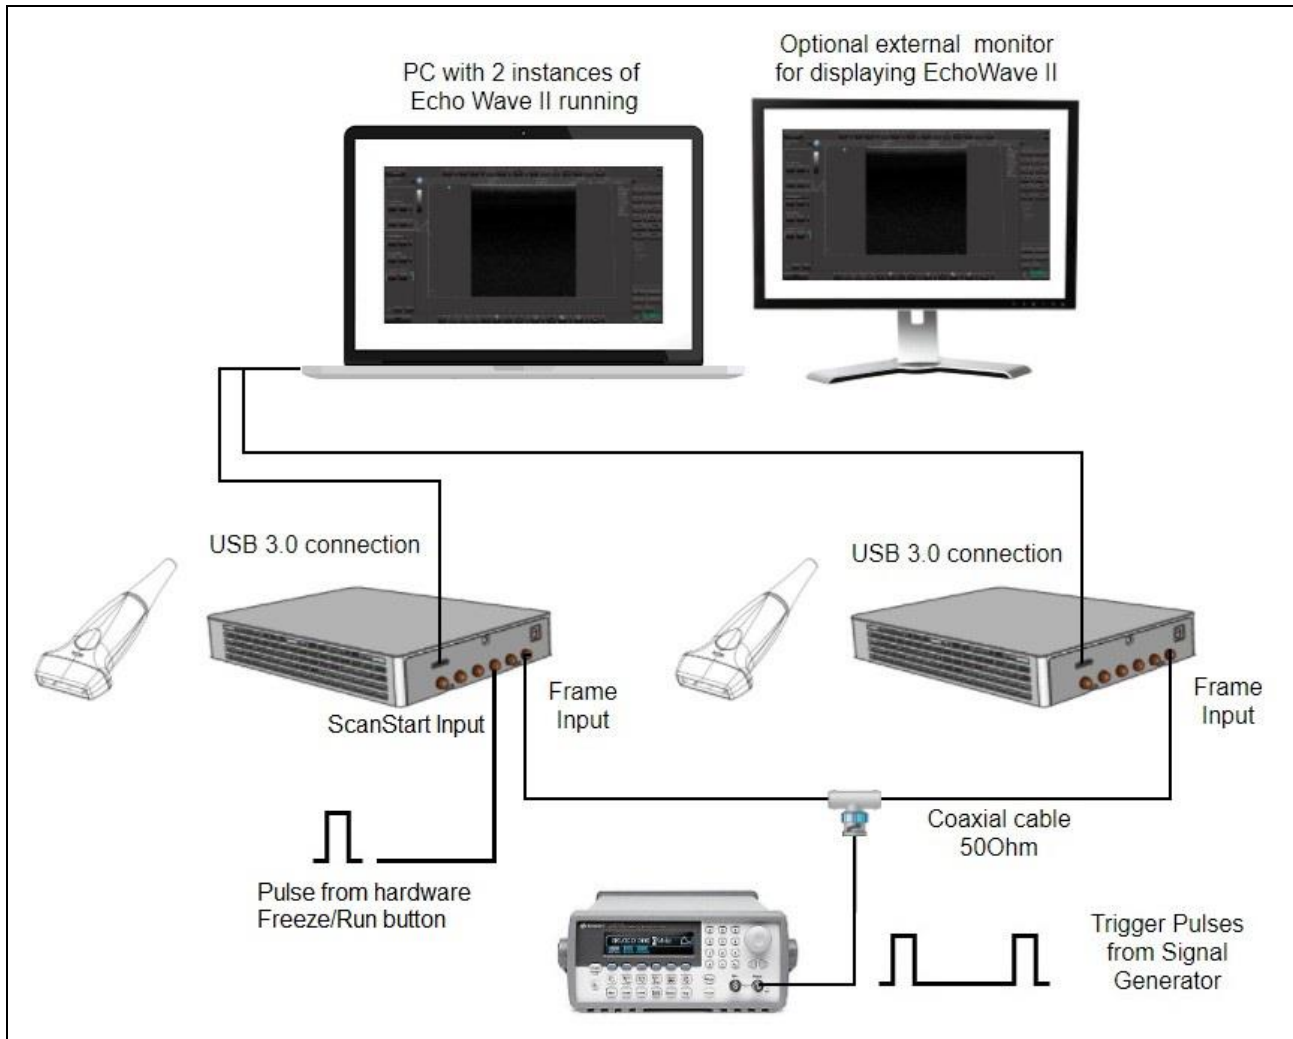

Figure 2 Twin ArtUs with a PC and optional external monitor (Frame Input)
3. Connect hardware Freeze/Run button to ScanStart Input of one of ArtUs devices as shown on Figure 2